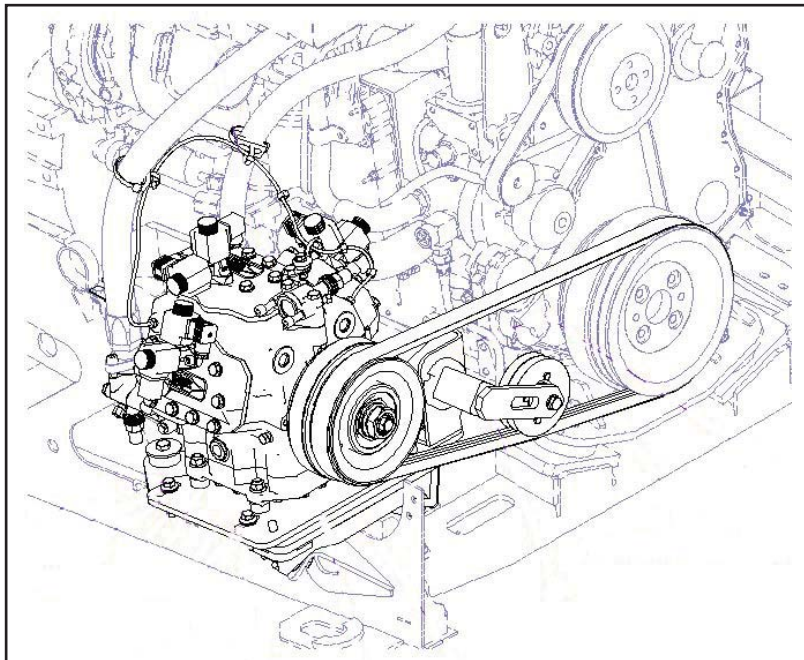

Figure 1 - A/C Compressor Location
- 1.2. Locate the A/C compressor. See Figure 1.